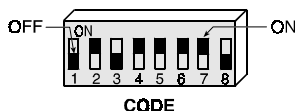

Figure 4. Code Selector
- All models have an 8-position DIP switch (marked 1 - 8). Each switch may be set to ON or OFF position, to create a unique digital system code (see Fig. 4).
CAUTION: The code combination 2, 4, 5, 6, 7 ON and 1, 3, 8 OFF (as shown in Figure 4) is a factory test code that should be avoided. Also do not select "easy" codes such as all keys ON, all keys OFF or alternating ON/OFF settings.